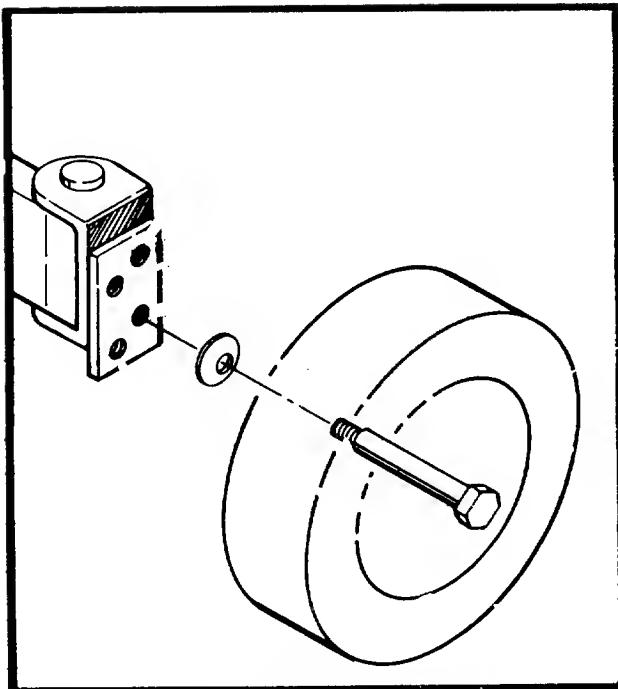

FIGURE 10. FRONT WHEEL ADJUSTMENT
H. The height adjustment for the cutting blade is made, by removing the front axle bolts and moving the front wheels to one of the four cutting positions. See figure 10.